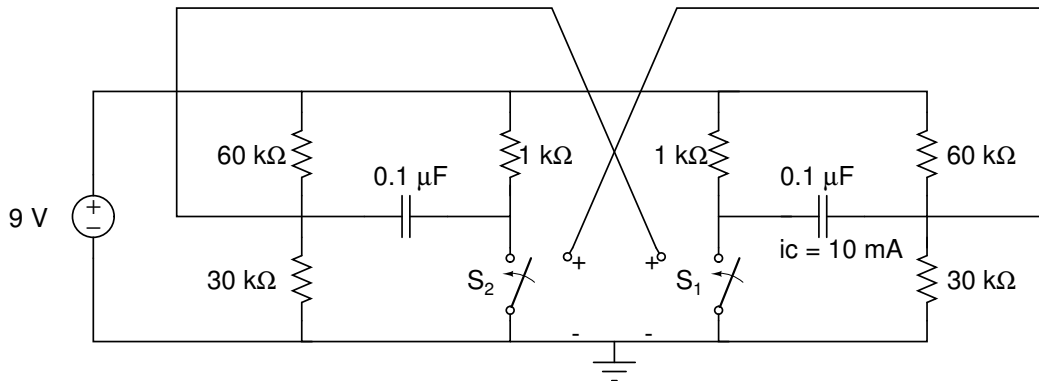

Figure 2: Astable multivibrator Micro-Cap test circuit.
4. Use Micro-Cap to analyze the operation of this circuit using the Micro-Cap test circuit shown in Figure 2. For the voltage-controlled switch (V-Switch), set the resistance of the switch to  $1\Omega$  when the switch is closed and set  $V_{\text{on}} = 2.1$  V and  $V_{\text{off}} = 2.0$  V. Make sure to include the indicated initial conditions on the capacitors.